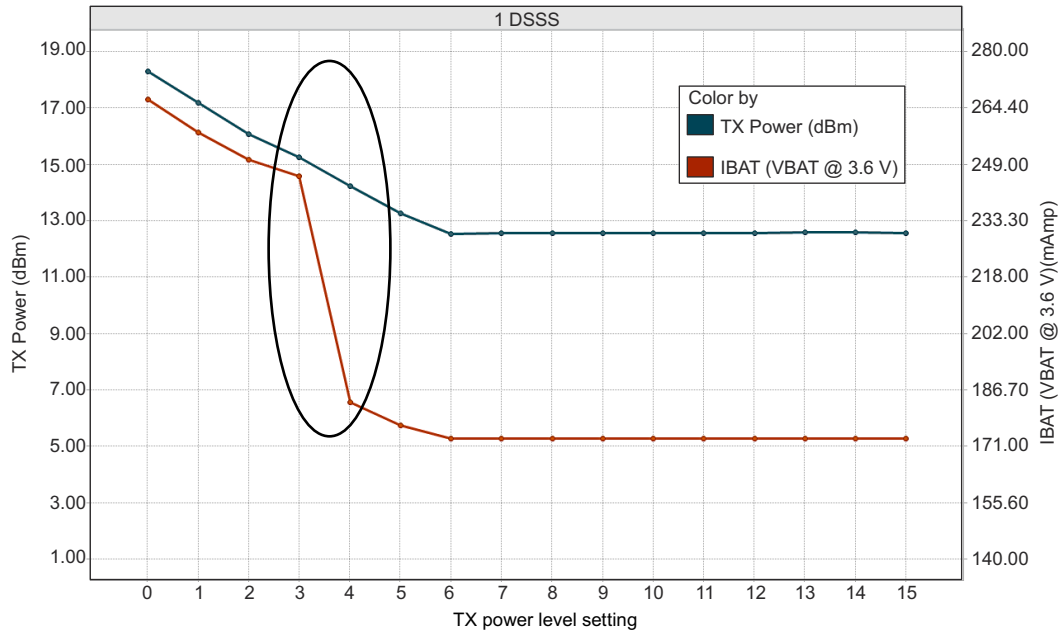
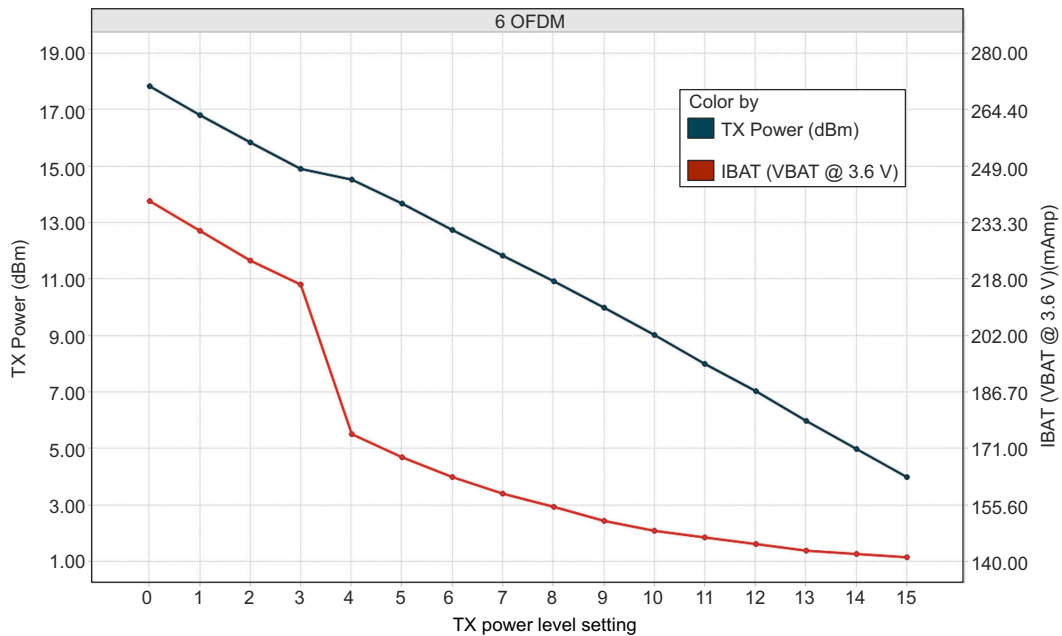
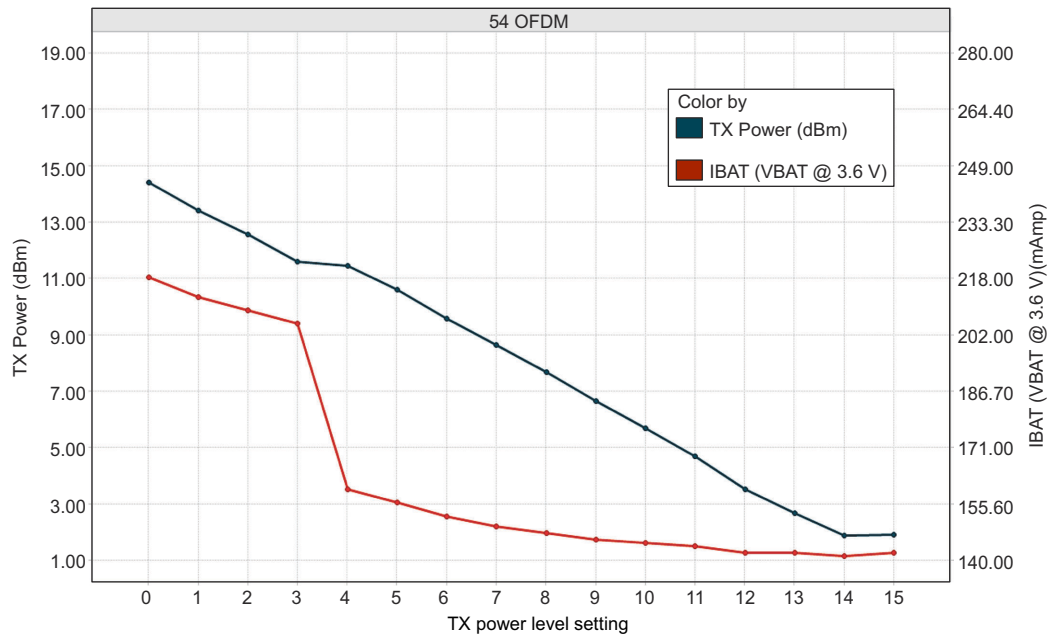

Figure 8-1. TX Power and IBAT vs TX Power Level Settings (1 DSSS)
Figure 8-2. TX Power and IBAT vs TX Power Level Settings (6 OFDM)
Figure 8-3. TX Power and IBAT vs TX Power Level Settings (54 OFDM)
- (1) TX power level = 0 implies maximum power (see Figure 8-1, Figure 8-2, and Figure 8-3). TX power level = 4 implies output power backed off approximately 4 dB.
- (2) LPDS current does not include the external serial flash. The LPDS number of reported is with retention of 256KB of MCU SRAM. The CC3230x device can be configured to retain 0KB, 64KB, 128KB, 192KB, or 256KB of SRAM in LPDS. Each 64-KB block of MCU retained SRAM increases LPDS current by 4 μA .
- (3) DTIM = 1
- (4) The complete calibration can take up to 17 mJ of energy from the battery over a time of 24 ms. In default mode, calibration is performed sparingly, and typically occurs when re-enabling the NWP and when the temperature has changed by more than 20°C. There are two additional calibration modes that may be used to reduced or completely eliminate the calibration event. For further details, see CC31xx, CC32xx SimpleLink™ Wi-Fi® and IoT Network Processor Programmer's Guide.
- (5) The CC3230x system is a constant power-source system. The active current numbers scale based on the V_{BAT} voltage supplied.
- (6) Typical numbers assume a VSWR of 1.5:1.
- (2) LPDS current does not include the external serial flash. The LPDS number of reported is with retention of 256KB of MCU SRAM. The CC3230x device can be configured to retain 0KB, 64KB, 128KB, 192KB, or 256KB of SRAM in LPDS. Each 64-KB block of MCU retained SRAM increases LPDS current by 4 µA.
- (4) The complete calibration can take up to 17 mJ of energy from the battery over a period of 24 ms. Calibration is performed sparingly, typically when coming out of HIBERNATE and only if temperature has changed by more than 20°C. The calibration event can be controlled by a configuration file in the serial flash.
- (5) Typical numbers assume a VSWR of 1.5:1.
Figure 8-1, Figure 8-2, and Figure 8-3 show TX power and IBAT versus TX power level settings for the CC3230S device at modulations of 1 DSSS, 6 OFDM, and 54 OFDM, respectively. For the CC3230SF device, the IBAT current has an increase of approximately 10 mA to 15 mA depending on the transmitted rate. The TX power level will remain the same.
In Figure 8-1, the area enclosed in the circle represents a significant reduction in current during transition from TX power level 3 to level 4. In the case of lower range requirements (14-dBm output power), TI recommends using TX power level 4 to reduce the current.